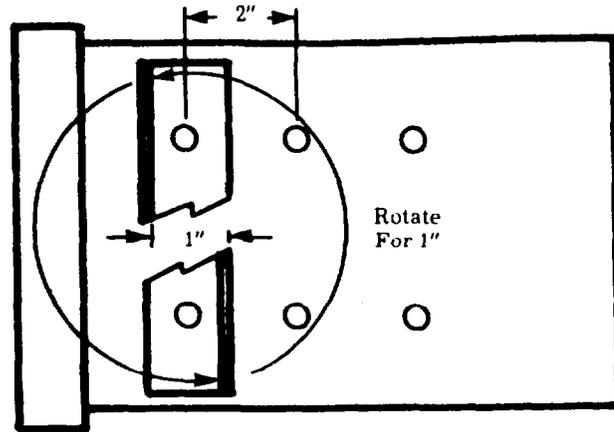

Figure II-2—Bracket Adjustment Diagram
3.02 The position of the Traffic Recorder's front panel relative to the rack mounting plane may be adjusted in one inch increments. There are three sets of threaded holes spaced 2 inches apart on each side of the unit. The mounting brackets can be installed in any one of these sets of holes. One inch adjustment is obtained by turning the mounting brackets end for end and securing them in the same set of holes. See Figure II-2.